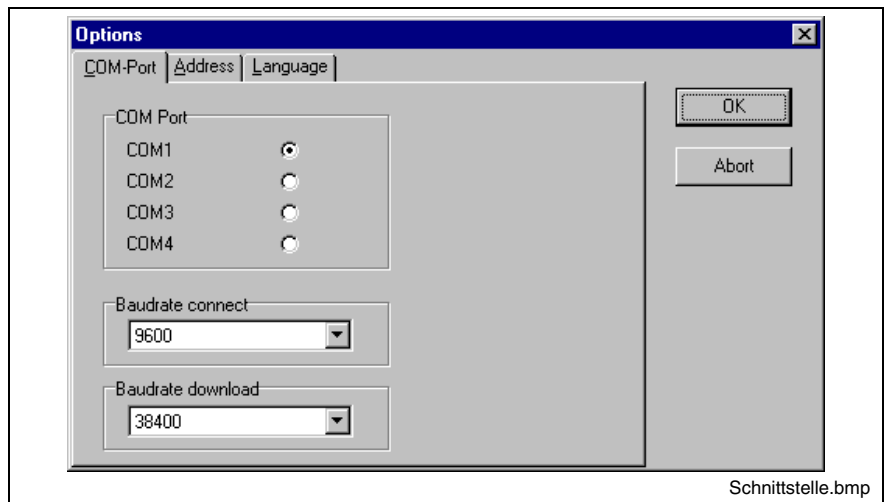

Fig. 8-5: Interface settings
- Fig. 8-5: Interface settings 8-5